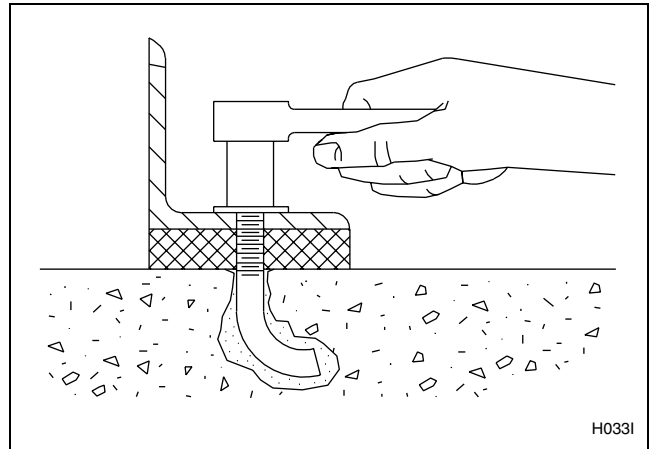

Figure 8
8. If grouting is not desired, position washers and locknuts on J-bolts and tighten the locknuts by even increments – one after the other – until all are tightened evenly and the machine is fastened securely to the floor. Refer to *Figure 8*.